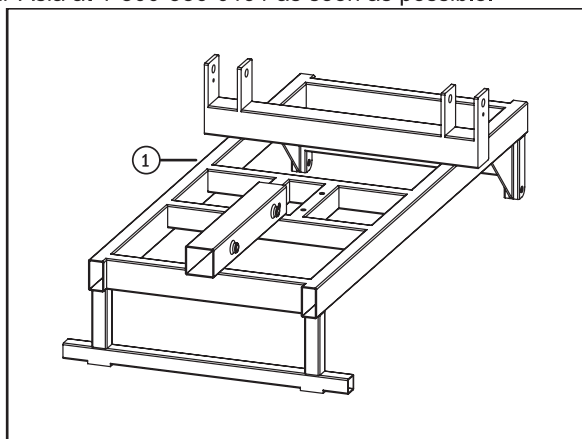

Fig. 1
Step 4: Lay out the frame parts. In a well-lit area with enough room to assemble and move the trailer around, set the Main Frame (1) onto the floor with the axle tangs facing upwards as shown in Fig. 1.